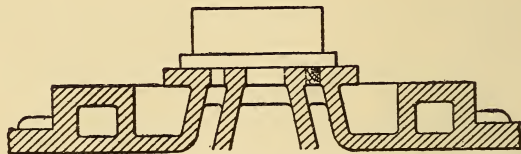

FIG. 27.—METHOD OF BLOCKING PORT FOR BROKEN CYLINDER HEAD.
*A.* Yes. It is possible to remove the steam chest cover, and fit a piece of wood tightly into the forward port, as shown in Fig. 27. This will prevent the escape of steam